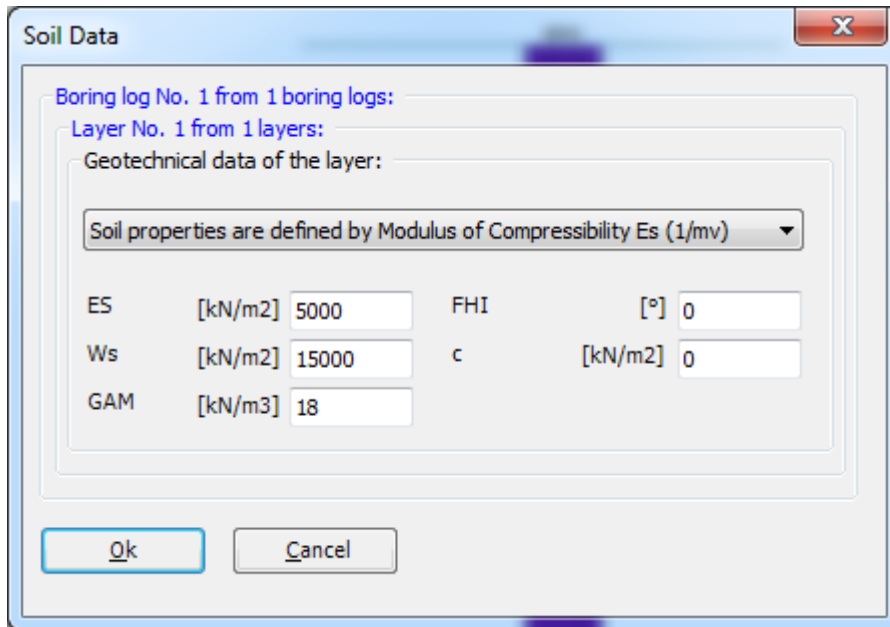

Figure 9.15 "Geotechnical data of the soil layer" dialog box
- Double-click on the geotechnical data of the soil layer. The corresponding dialog box appears allowing you to modify the geotechnical data of the soil layer, Figure 9.15
- In the dialog group box "Geotechnical data of the layer" in Figure 9.15, define the geotechnical data of the soil layer as follows: